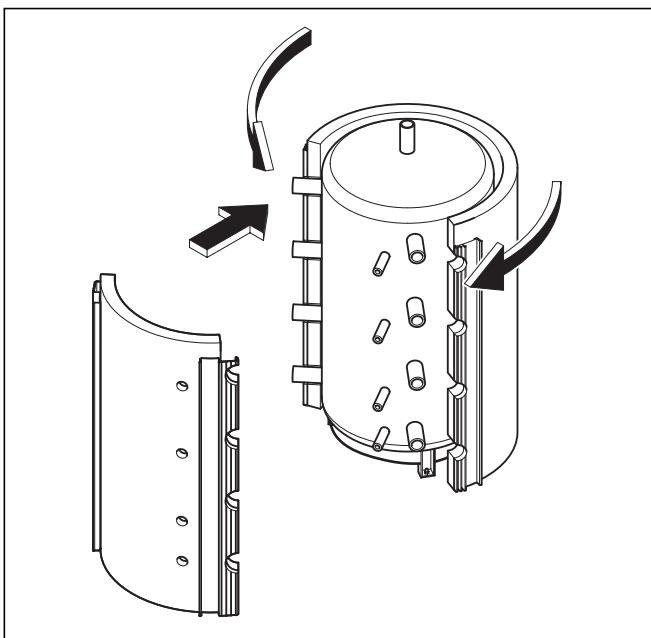

Fig. 4.8 Fitting the insulating jackets
- Wind the large (front) insulating jacket around the buffer cylinder from the front, as shown in Fig. 4.8.